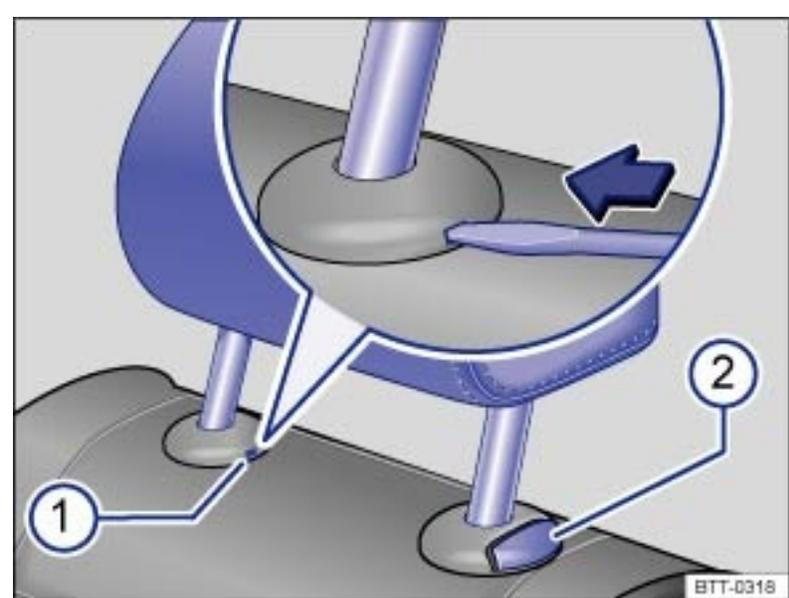

Fig. 46 Removing the rear head restraint (version B).
- ▶ If necessary, press the flat blade of the screwdriver from the vehicle tool kit into the slit of the trim cap → Fig. 46 ② in the direction of the arrow and hold it in this position.
- ▶ At the same time press button ② while a second person pulls out
or → Fig. 46 ② .